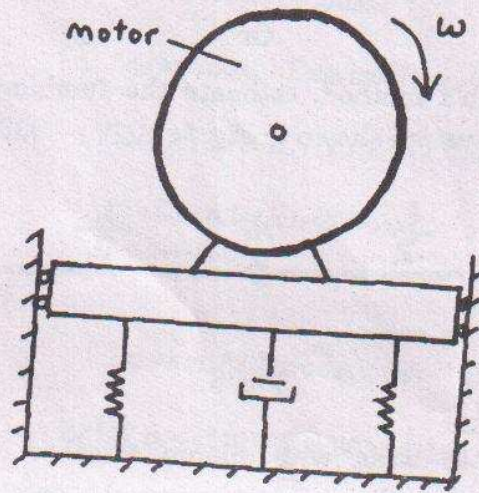

Fig. 3
12. (a) (i) The 30 kg electric motor shown in Fig. 3 is supported by 4 springs, each having a spring constant of 200 N/m. The rotor R is unbalanced and the effect of unbalance is equivalent to a 4 kg mass located 4 mm from the axis of rotation. The damping factor of the system is 0.15. Determine the amplitude of vibration when the rotor is rotating at  $\omega = 10$  rad/s. (10)